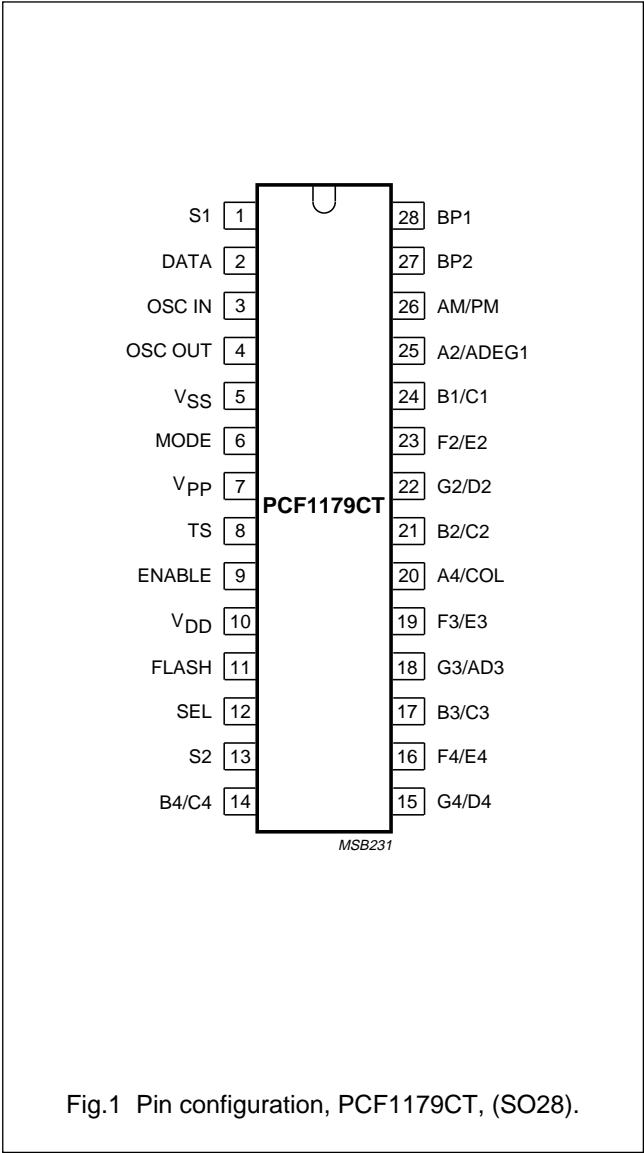

Fig.1 Pin configuration, PCF1179CT, (SO28).
1. See Fig.1 and Chapter "Package outline" for pin layout and package details.